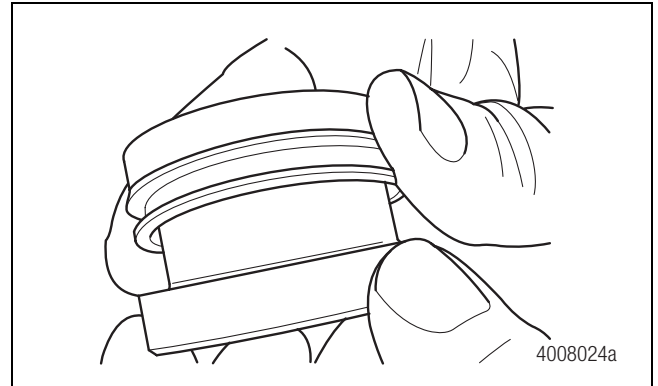

Figure 5.41
1. Place the retainer onto a suitable driver from Meritor tool MST 1000. Figure 5.41.